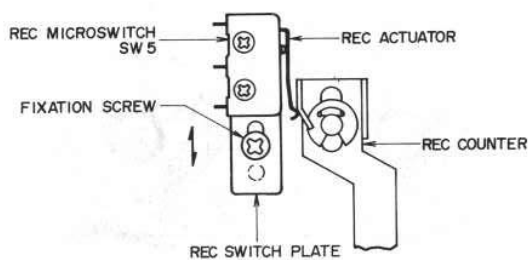

Fig. 8
6. POSITION ADJUSTMENT OF RECORDING MICROSWITCH (See Fig. 8)
At recording mode, adjust by moving the recording switch plate shown in Fig. 8 as indicated by the arrow mark in the figure so that recording micro switch (SW5) is perfectly turned ON. Tighten fixation screw to maintain this condition.